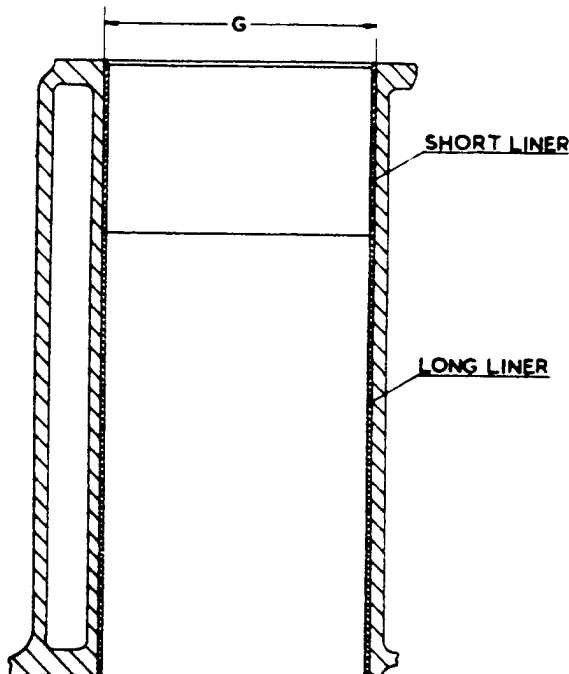

FIG. 3. SECTION - CYLINDER - TWIN LINERS IN POSITION (3 500" DIA. BORE ENGINE).
- (vi) Again set up the crankcase on the boring machine with the upper end of the 3.625" (92.07 m/m) dia. counterbore CONCENTRIC with the boring cutter and bore out the cylinder in stages, the whole of its length, (See G Fig.3), to a diameter that will allow the correct interference fit between the cylinder and the pair of matched liners. The finish of the bore must be a MACHINED AND NOT A HONED FINISH, prior to pressing in the liners.